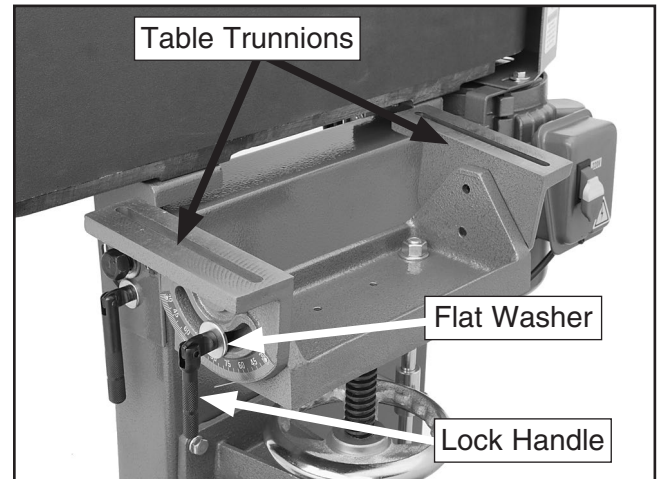

Figure 22. Table trunnions installed.
13. Attach each table trunnion to the table bracket with a $\frac{3}{8}$ " flat washer and lock handle, as shown in **Figure 22**. The trunnion with the scale attaches to the left side.